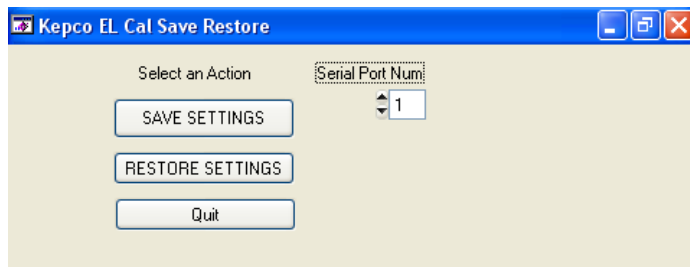
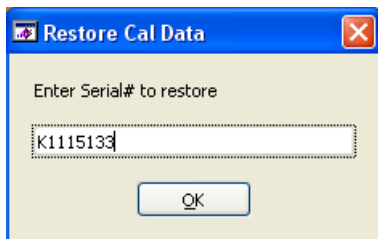

FIGURE 5. KEPSCO EL CAL SAVE RESTORE WINDOW
FIGURE 6. RESTORE CAL DATA WINDOW
When the **Kepco EL Cal Save Restore** window (Figure 5) appears, select the serial port to which the EL load is connected.
2. Click the **RESTORE SETTINGS** button (see Figure 5). The Restore Cal Data window opens (Figure 6). Enter the serial number of the unit to be restored and click **OK**.